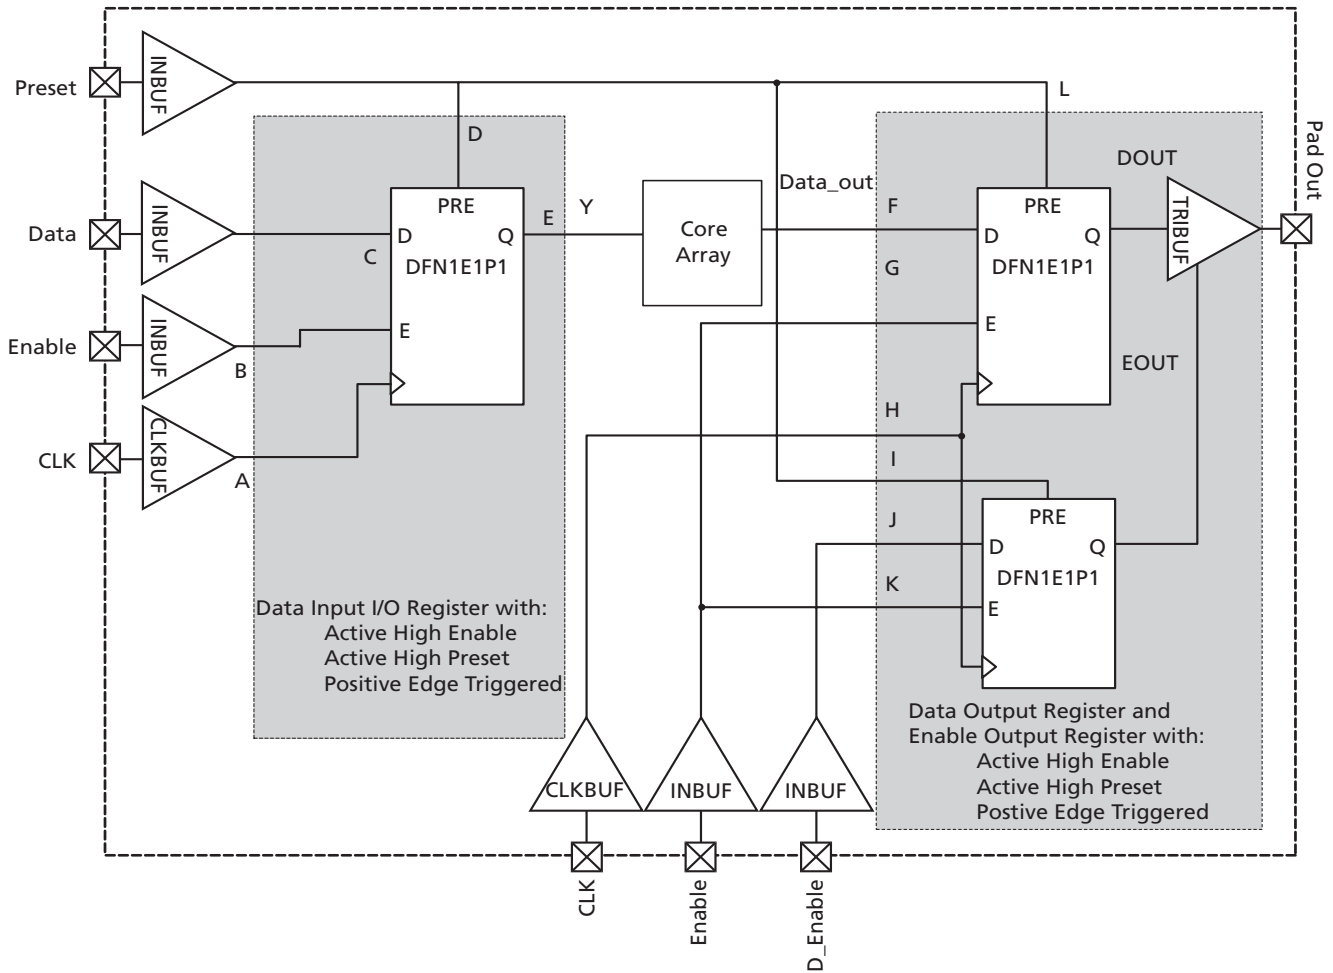

Figure 3-13 • Timing Model of Registered I/O Buffers with Synchronous Enable and Asynchronous Preset
**Note:** \*See Figure 3-13 on page 3-30 for more information.